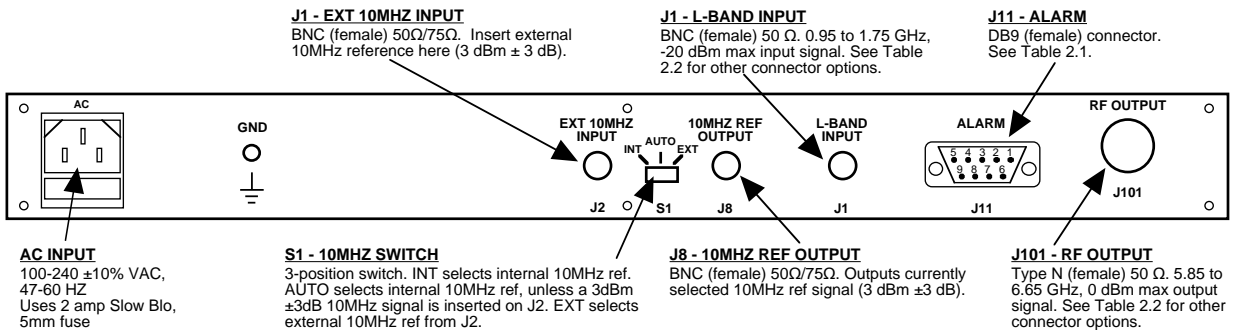

FIGURE 2.1 Rear Panel I/O's
Figure 2.1 shows the input and output connectors on the rear panel.
1. Connect a -40 dBm to -20 dBm signal to L-BAND INPUT, J1 (Figure 2.1).
5. Select either INT (for internal 10 MHz ref), AUTO (for internal 10 MHz ref UNLESS a external 10 MHz, 3 dBm signal is connected to J2), or EXT (for external 10 MHz, 3 dBm ref that is inserted at J2) on rear panel switch S1 (Figure 2.1).
7. Check that a 10 MHz, 3 dBm \pm 3 dB signal is present at the 10 MHz REF OUTPUT (J8) (Figure 2.1).